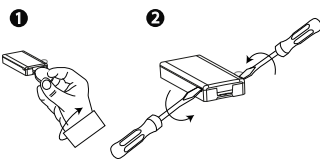

Figure 4: Device cover removal
1. Remove the cover. See Figure 4.
Before testing, separate the cover from the base (see Figure 4), then complete the following steps: